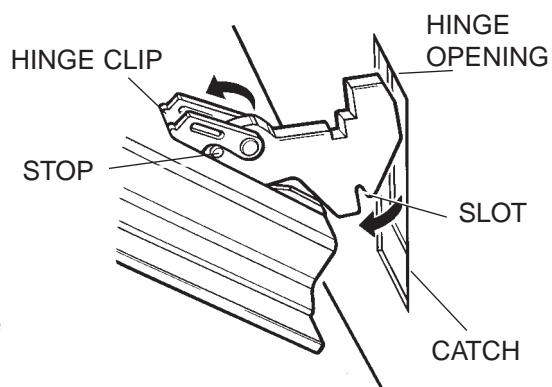

Figure 14 - removing the oven door
2. Raise one hinge clip and rotate it towards you as far as the stop (Figure 14). Repeat the procedure with the second hinge clip on the other side of the door.